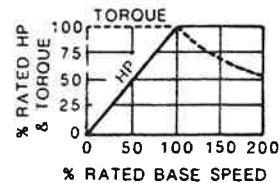

Figure 10-5.
B. Field Controlled DC Drives - Another characteristic of a shunt-wound DC motor is that a reduction in field voltage to less than the design rating results in an increase in speed for a given armature voltage. It is important to note, however, that this results in a higher armature current for a given motor load. A simple method of accomplishing this is by inserting a resistor in series with the field voltage source. This may be useful for achieving an ideal motor speed for the application. An optional, more sophisticated method uses a variable voltage field regulator. This provides coordinated automatic armature and field voltage control for extended speed range in constant HP applications. The motor is armature voltage controlled for constant torque-variable HP operation to base speed. It is then transferred to field control for constant HP-variable torque operation to maximum speed. This is illustrated in Figure 10-5.